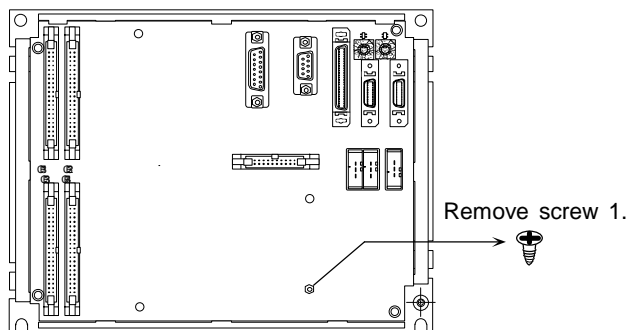

Fig. 1
1. Remove screw 1 from the base I/O unit. (Fig. 1)